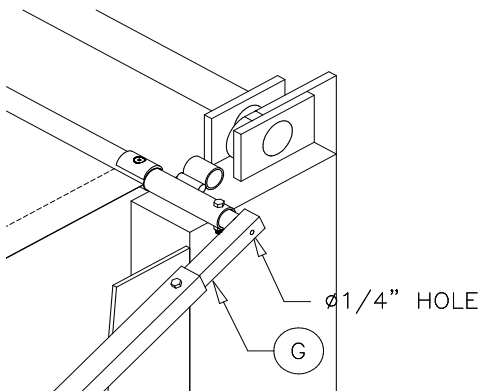

Figure 23
**Procedure:** Using a 1/4" drill bit, drill a hole through the top pivot arms to accept the tarp strap at the approximate location shown in Figure 23.